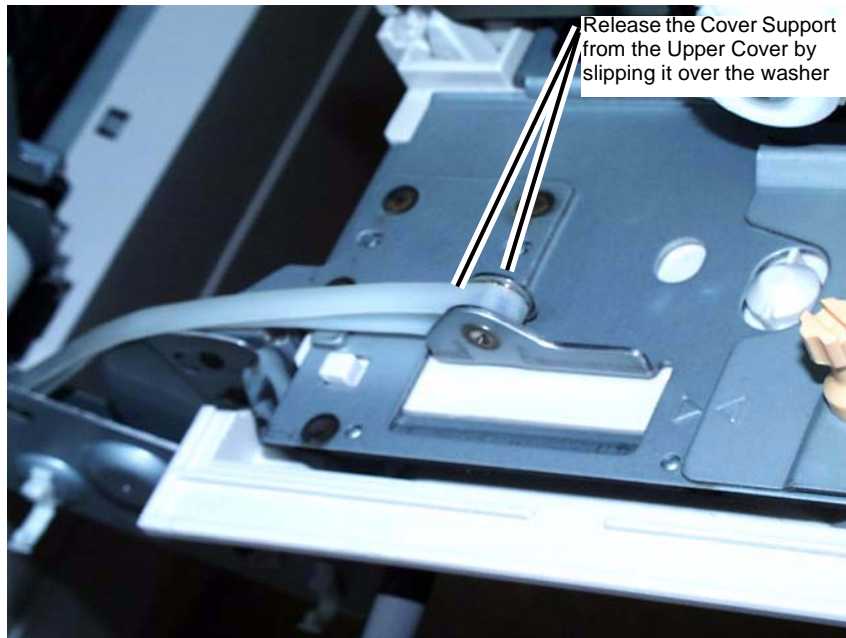

Figure 1 Releasing the Cover Support
3. Release the Cover Support while holding the L/H Upper Cover. (Figure 1)